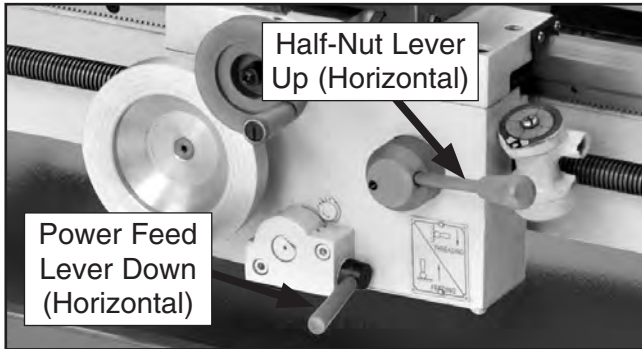

Figure 11. Half-nut and power feed lever positions for Test Run.
3. Move the half-nut lever up to disengage the half-nut, and push the power feed lever down to disengage the carriage power feed, as shown in **Figure 11**.